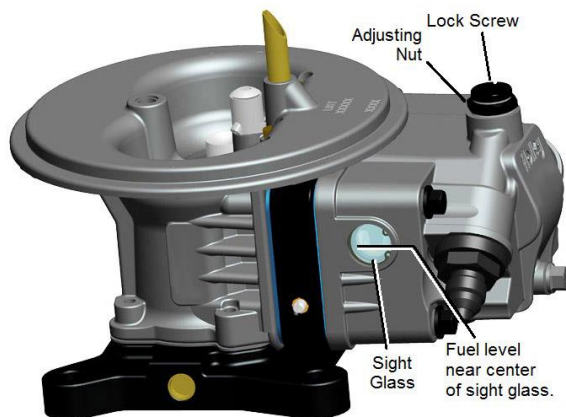

Figure 1
2. The fuel level in the clear sight glass should be mid-level for correct float adjustment. Most likely, this will not need to be adjusted. See Figure 1.